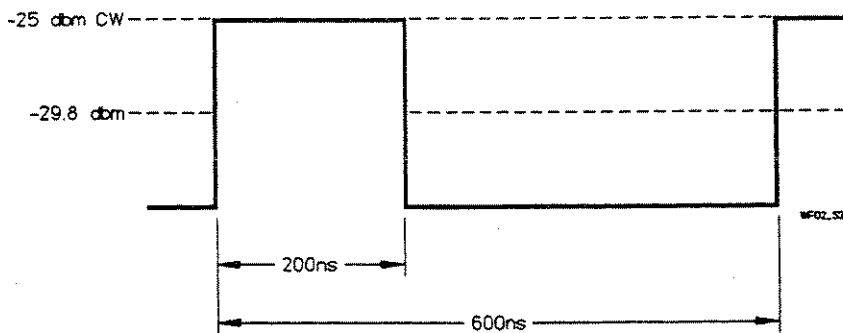

Figure 1-4. Pulsed RF Amplitude/Time Relationship
Peak pulse power cannot be directly read from a power meter. Therefore, the following pulsed RF amplitude power relationship is presented as an example of how to interpret pulsed RF power readings. Refer to *Figure 1-4* for amplitude/time waveform relationship.
The example in *Figure 1-4* works out as follows:
3. View the pulse on the oscilloscope to make final adjustment. The waveform time relationships should match those shown in *Figure 1-4* with pulse amplitude at 2.0V nominal.
15. View the pulse on an oscilloscope to make final adjustment. The waveform time relationship should match that shown in *Figure 1-4* with a pulse amplitude of 2V.